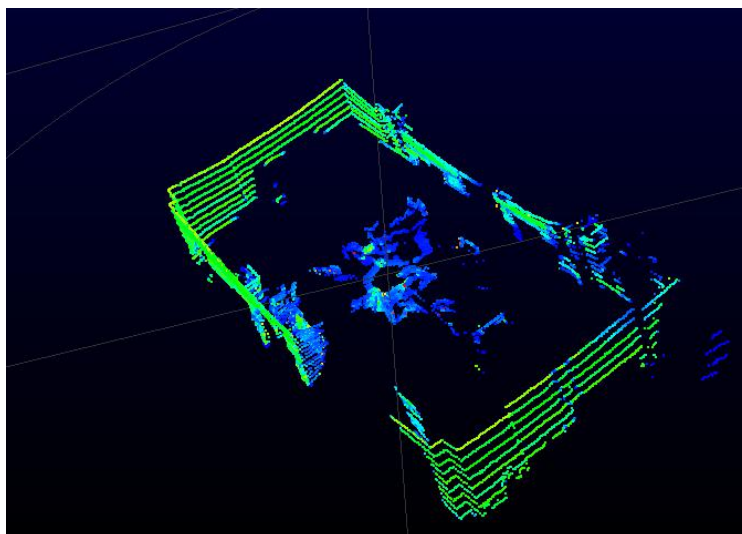

Fig C-3 RSView Sensor Stream Display
5. RSView begins displaying the sensor data stream (Fig C-3). The stream can be paused by pressing the **Play** button. Press it again to resume streaming.